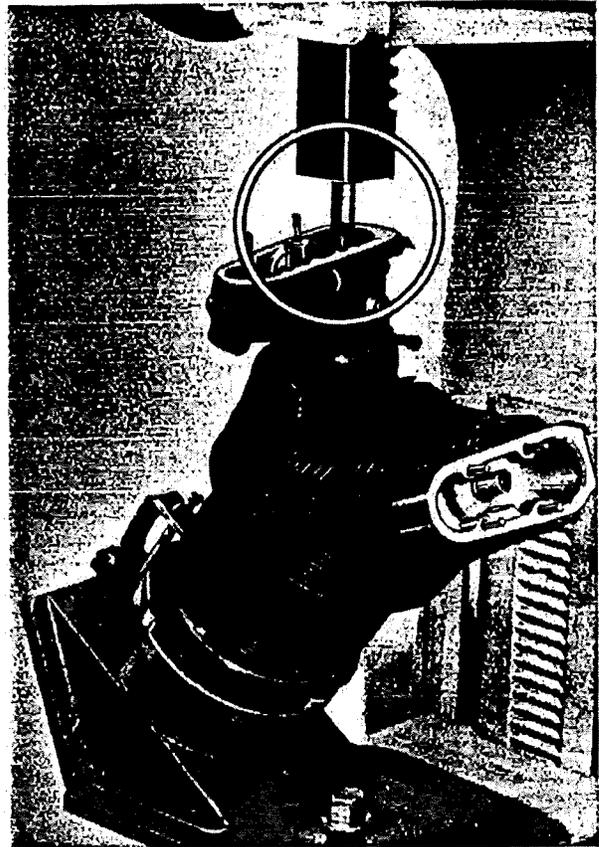

Figure 21 - Pressing in Valve Guides
2. Insert exhaust valve guide in place and press in with Drift (Tool No. T-29000). Two are required for use as drift and pilot respectively, when pressing guide into cylinder head. Refer to Figure 21.
3. Insert intake valve guide in place and press in with Drift (Tool No. T-28000). Two are required as for exhaust valve guide. Refer to Figure 21.